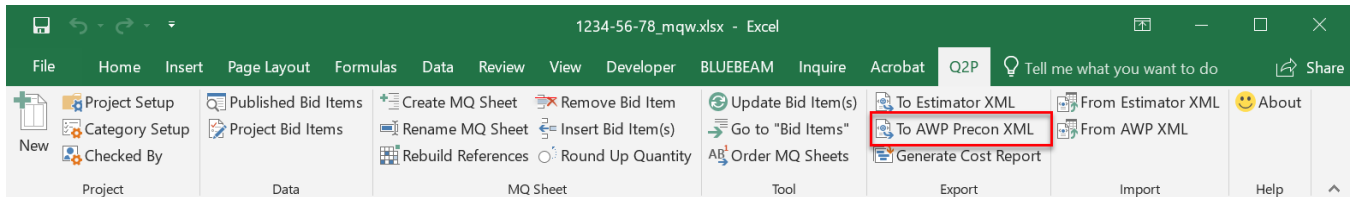
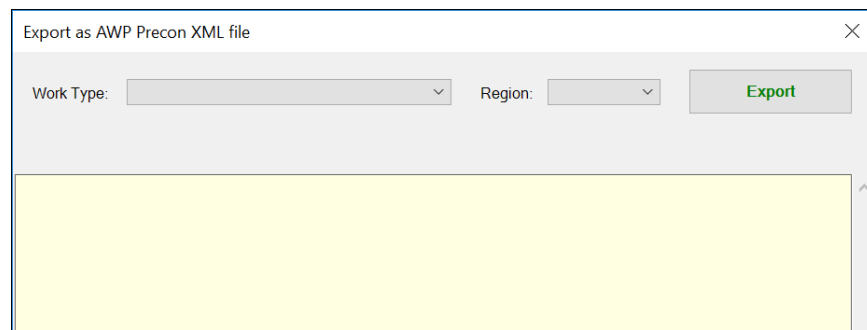

Figure 15.1 “To AWP Precon XML” command.
Figure 15.2 “Export as AWP XML file” dialog box.
1. Select **Q2P > Export > To AWP Precon XML** (Figure 15.1). This command will bring up the “Export as Estimator XML file” dialog box (Figure 15.2).